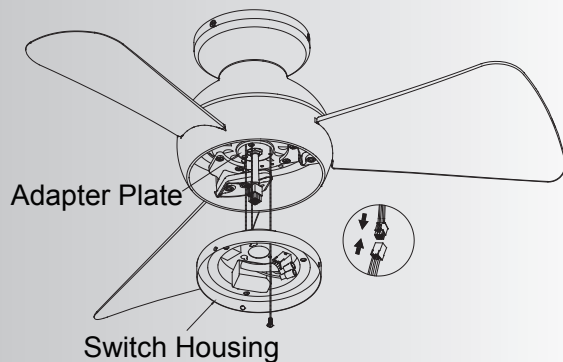

Fig. 12
Step 3. Remove one of the three screws in the adapter plate at the bottom of the motor assembly and retain the screw for later use. Slightly loosen the remaining two screws. Place the motor connector through the center hole of the switch housing. Rotate the switch housing key hole slots clockwise to engage both loosened screws. Reinstall the previous removed screw. Secure the switch housing to the adapter plate by tightening the three screws. (Fig. 12)